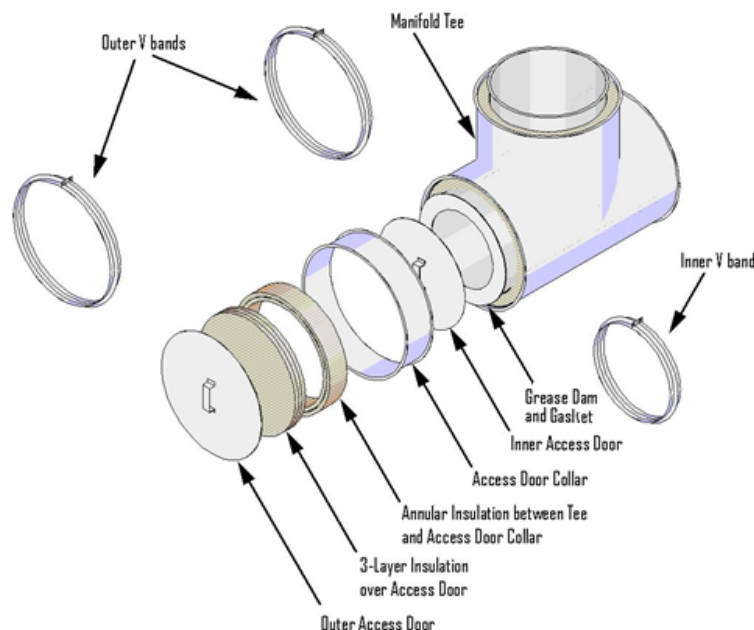

Figure 2. Access Door Assembly
- B. ACCESS DOOR – When required, use the duct manufacturer's manifold tee and access door (tee cap) assembly (see Figure 2). Apply a 1/4 in. continuous bead of sealant (Item 2A) to the inner flange of the tee on the side where access door is to be located. Center the supplied grease dam over the opening of the tee. Verify that the grease dam is sealed to the tee flange by applying pressure. Remove excess sealant (Item